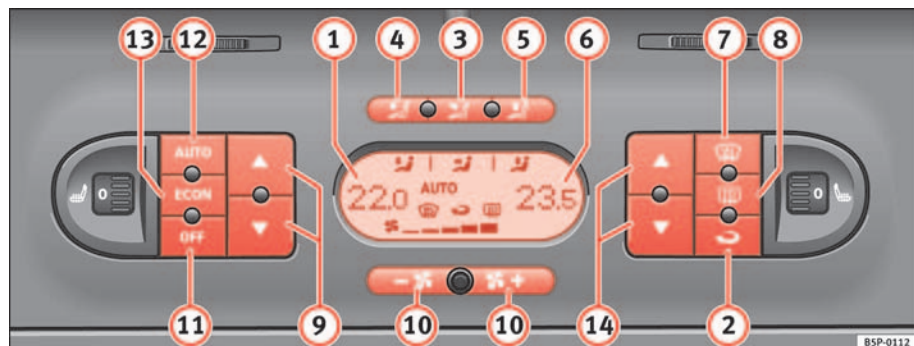

Fig. 126 On the dash panel: 2C Climatronic controls
- To enter manual mode, press one of the buttons ⇒ fig. 126 ③ to
⑤, (ECON) or turn the air flow control ⑩. The symbol (AUTO) will disappear from the display. ▶
- Press the button  ⇒ page 154, fig. 126  to switch air recirculation mode on or off. It is switched on if the following symbol appears in the display .